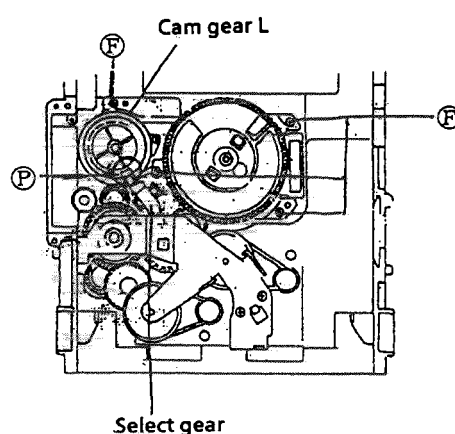

Fig. 2-17
4. Rotate the Cam gear L so that the select gear's ④ is positioned as shown in Fig. 2-17.
5. Remove 4 screws ② securing the cam unit which includes the cam gear L and Cam R1, R2 ass'y. (See Fig. 2-17.)